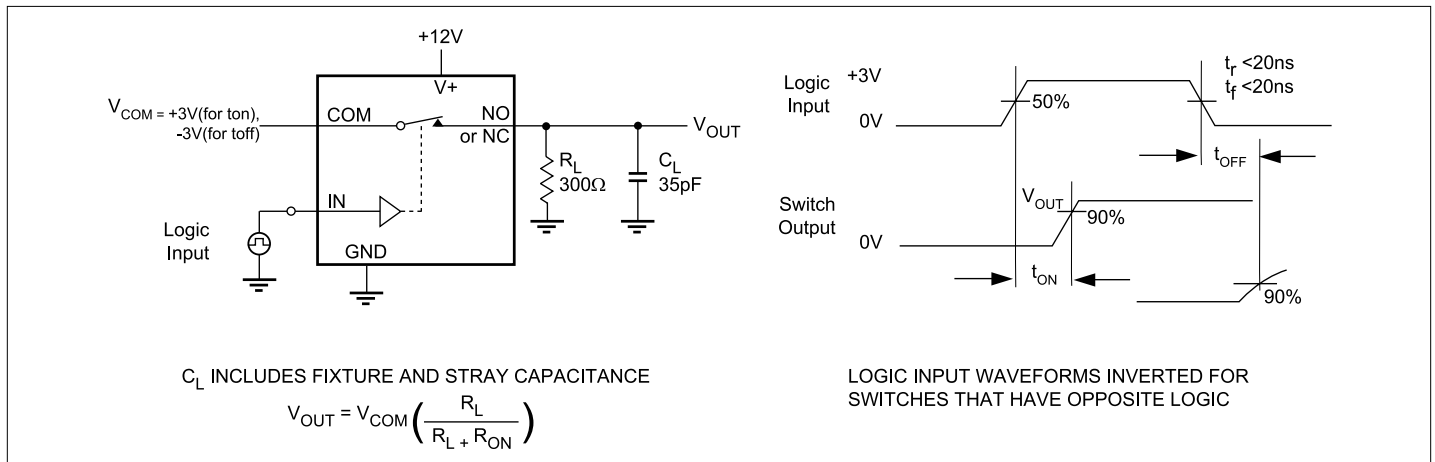

Figure 2. Switching Time
| Turn-On-Time (3)                            | t ON                                 | V COM = 3V, Figure 2                                                              | 25     |                     | 63                  | 170                 | ns    |
| Turn-On Time (3)        | t ON     | V COM = 1.5V, Figure 2                                             | 25        |                     |                     | 400                 | ns    |